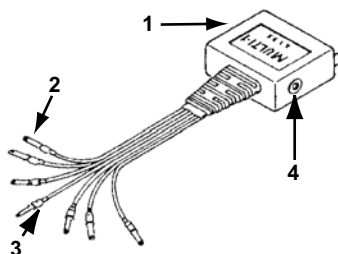

Figure 15-9 MT2500-90 MULTI-1 adapter
- “Connections Using the MULTI-1 Adapter” on page 181 (Figure 15-9)
To connect the MULTI-1 adapter (Figure 15-9) to a Subaru vehicle, a 12 volt power cable (Figure 15-11, Figure 15-12) and the ground adapter (Figure 15-10) must be used. Connect the MULTI-1 adapter as shown in (Figure 15-9). Connect the blue wire of the MULTI-1 adapter to the vehicle Check connector and pin designated in (Table 15-9).